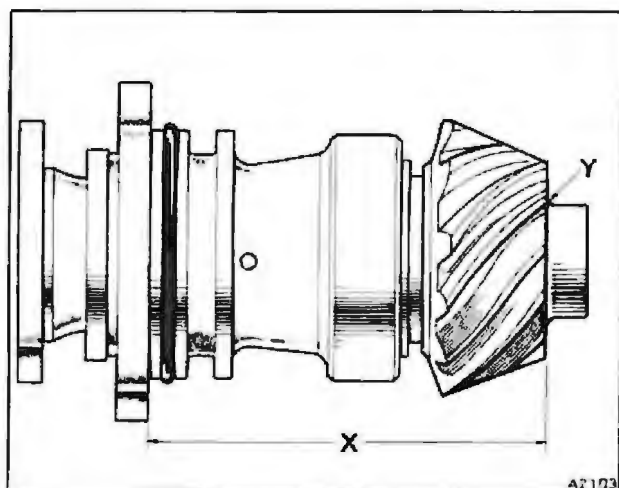

Fig. J2-8 Pinion housing measurement
5. Carefully measure from the back face of the pinion housing front flange to the face of the pinion gear adjacent to the nose bearing diameter (see fig. J2-8, dimension X).